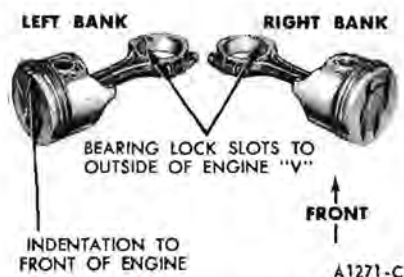

FIG. 47—Connecting Rod and Piston Assembly
1. Lubricate all parts with light engine oil. Position the connecting rod in the piston and push the pin into place. Assemble the piston and connecting rod as shown in Fig. 47.